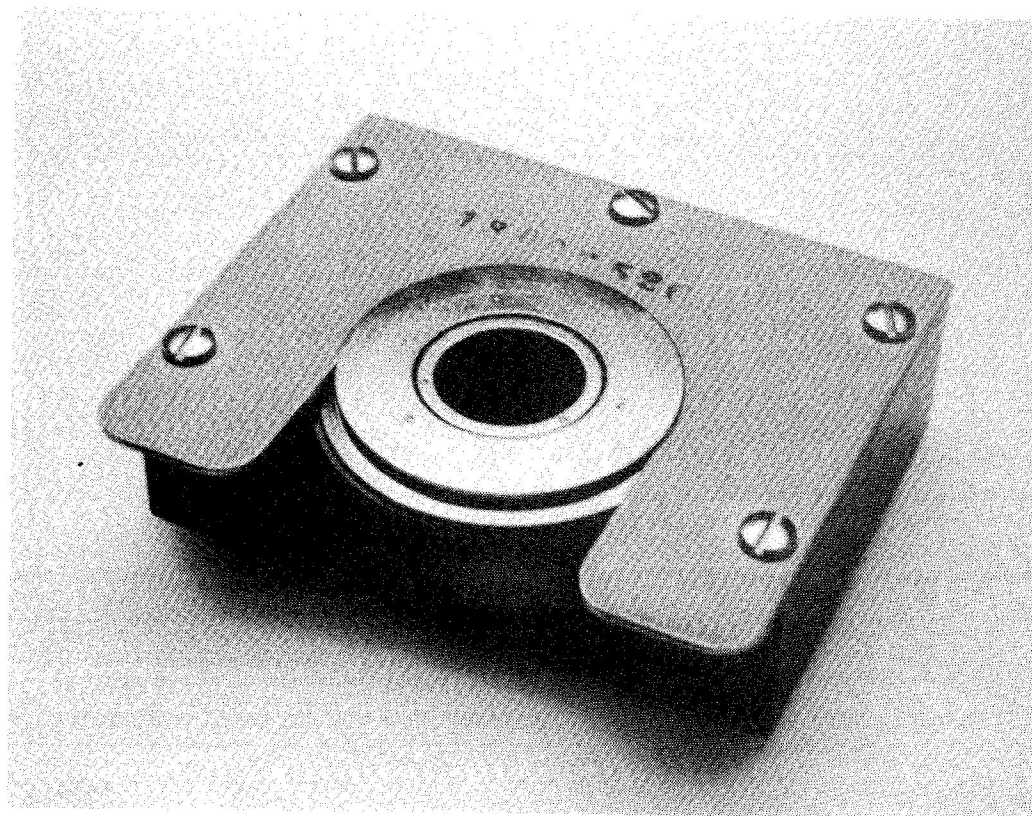

Figure 3-4: Blade and Adapter in Disassembly Tool
Production rate should be considered when selecting a wheel, and high cutting speed means high production. Figure 3-4 is a graph showing cutting speed versus depth of cut for a typical one mil thick blade.
- o Place the blade and adapter in the disassembly tool. (Refer to Figure 3-4.)